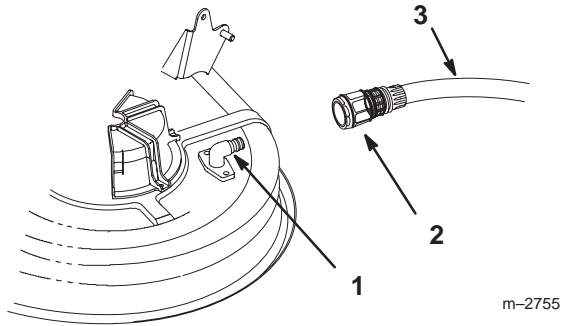

Figure 7
- Attach hose coupling to the end of the mower washout fitting, turn water on high (Fig. 7 or 8).